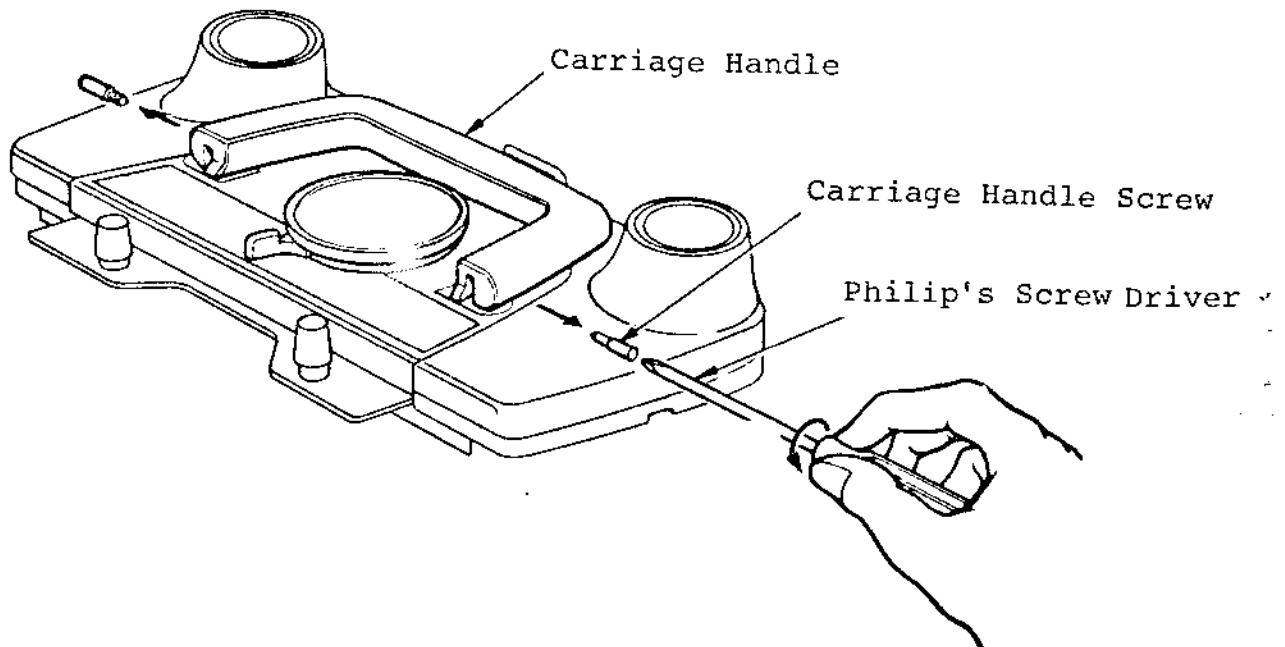

Fig. 13
2. Remove the two Carriage Screws, both of which located in a recess at the foot of both sides of the Handle. Use a Philip's Screw Driver as shown in Fig. 13 below.